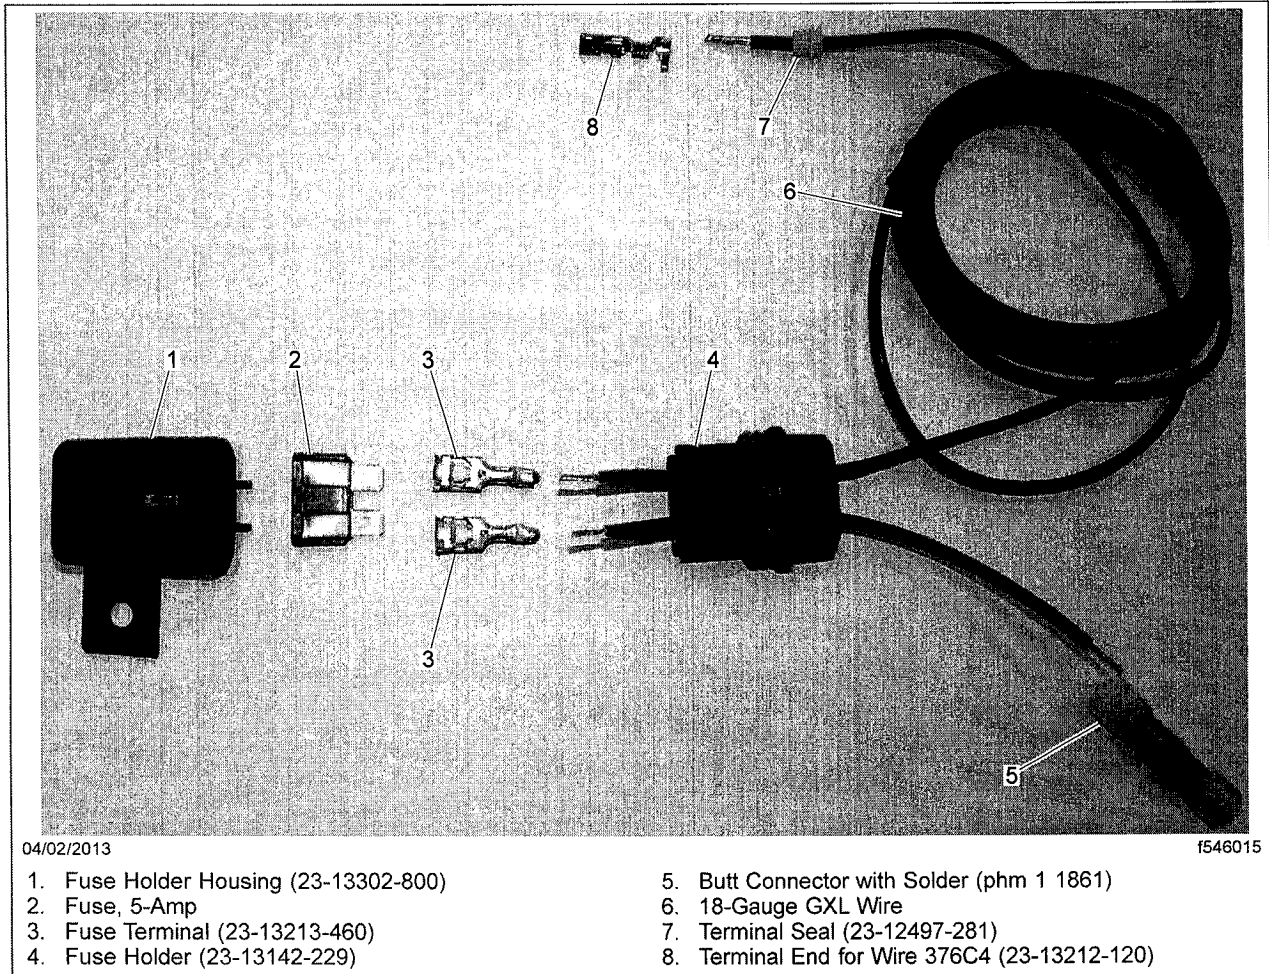

Fig. 5, Wiring Modification Parts
3. Inspect circuit 45 to make sure that the wiring modification has not already been completed. If the procedure was already performed, circuit 45 will be spliced with an 18-gauge wire and routed as shown in **Fig. 5**. If the procedure has not been performed, continue with the next step.
NOTE: See **Fig. 5** for the parts required for the wire splice.